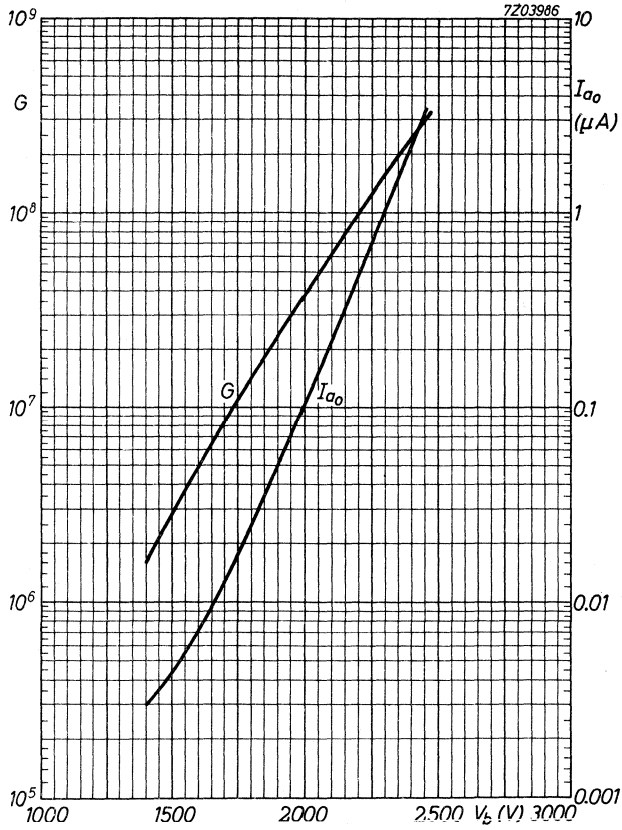

Fig. 2
- B. The multiplier system consists of 14 stages, providing a total current amplification of 10^8 at about 2200 V (see Fig. 2).